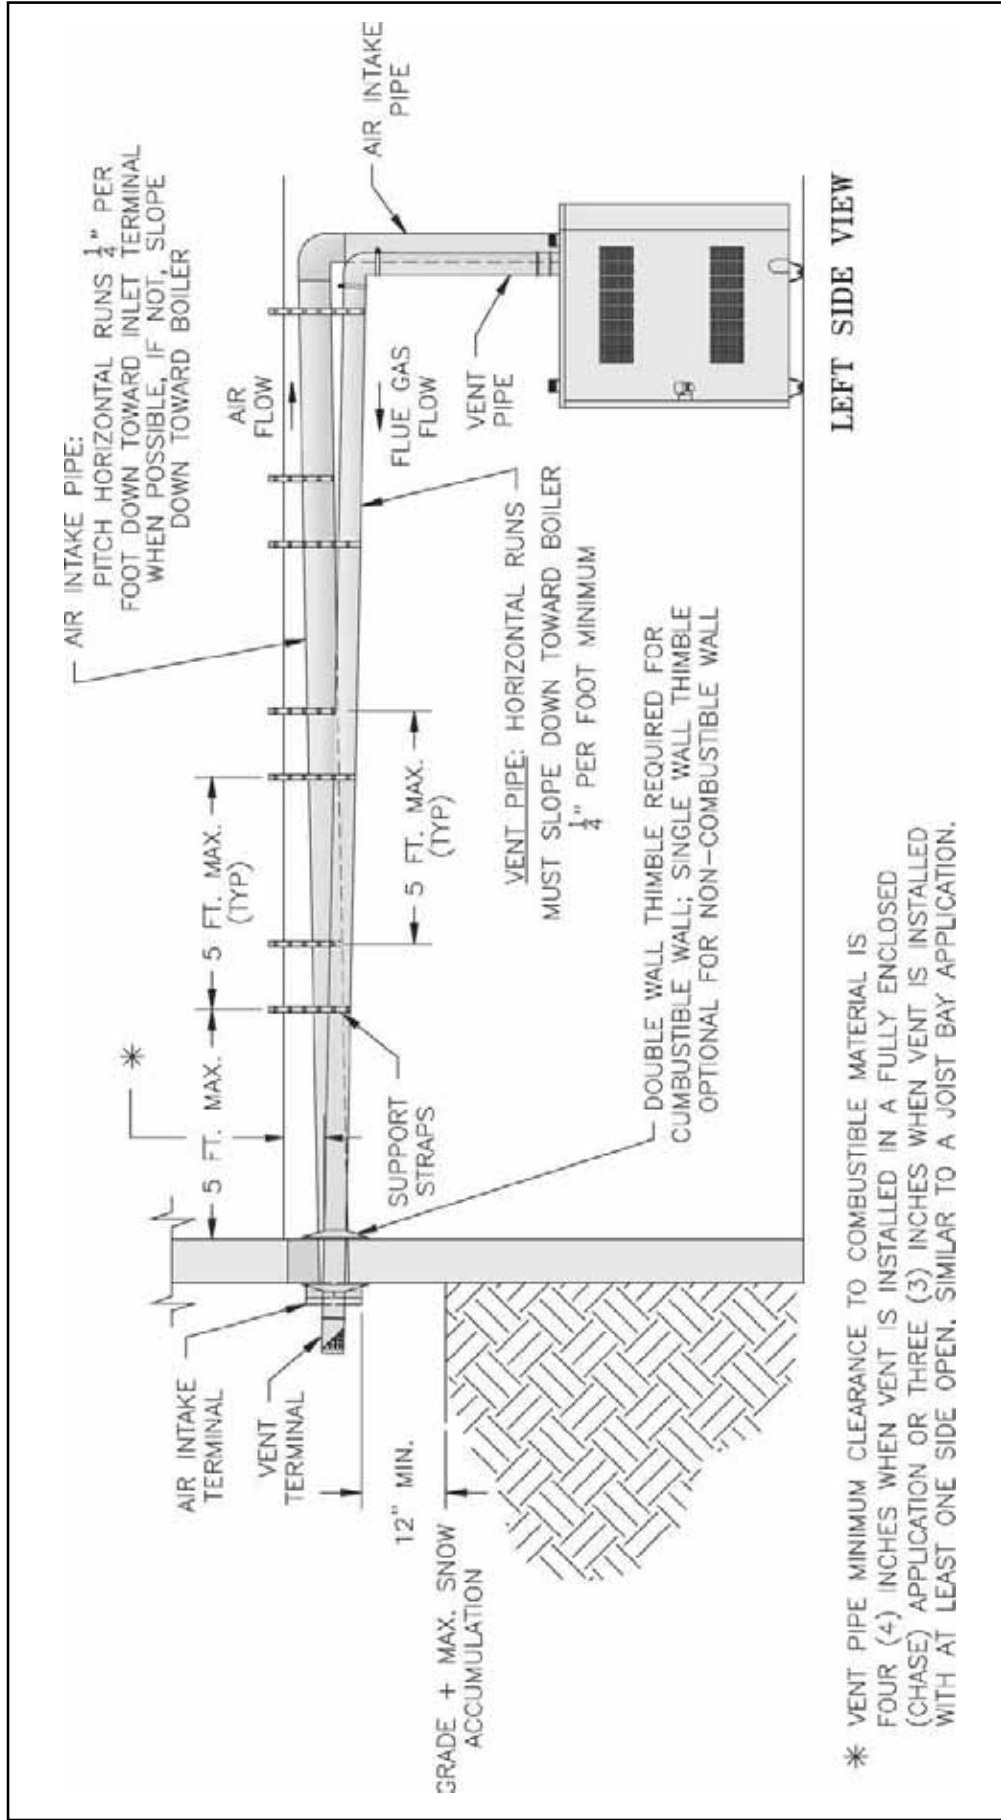

Figure 4: Recommended Separate Horizontal – Vent/Air Intake Installation
**F. Separate Horizontal Venting System.** See Figures 4 and 5.
3. Recommended horizontal installation consists of vent being sloped down ¼ inch per foot toward boiler. See Figure 4.
Air Intake piping - See Figures 4 and 5.